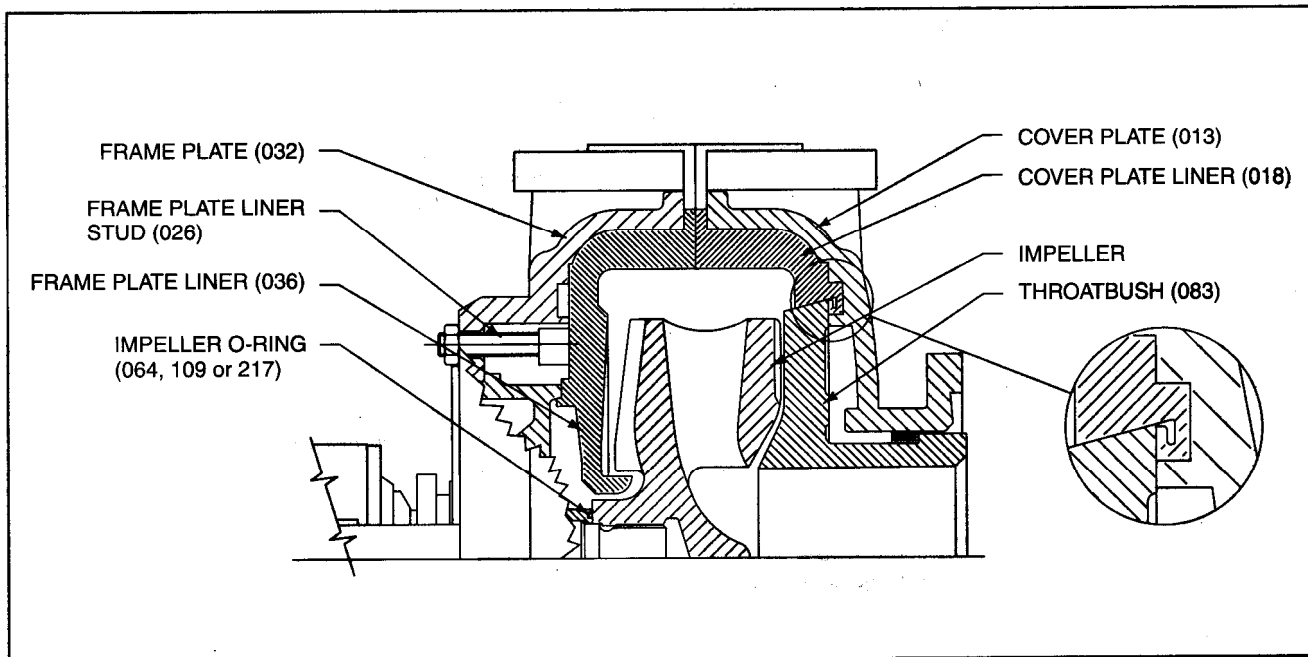

Figure 6-8 • Pump Assembly – Rubber Liners (3 Part)
3. Check CLAMP BOLTS (012) on side of base (see *Figure 6-8*) to ensure they are just tight enough to hold the bearing assembly horizontal, but not to lock it. Assuming the shaft is bare, fit SHAFT KEY (070) in keyway and bolt SHAFT WRENCH (306) onto the shaft. If the pump is installed, remove v-belts or separate coupling hubs.
- b. Obtain correct type of impeller as specified for particular pump application. **Note:** Elastomer impellers must be fitted with the impeller BOSS CAP (359). To keep it in position during assembly tape it to the impeller hub. Apply anti-seize lubricant to the thread. Lift the impeller with a rope hoist, and screw it onto shaft. Use a bar between vanes and hold while turning shaft to tighten impeller. Be careful not to damage various o-rings on the shaft during assembly.
4. Fit COVER PLATE LINER (018), THROATBUSH (083), and COTTERS (085) or STUD (026) as shown in *Figure 6-8*.